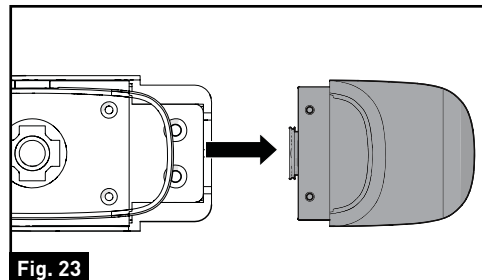

Fig. 23
4. Pull to remove the decorative part from traffic light and save in a safe place in case of future use. (Fig. 23)